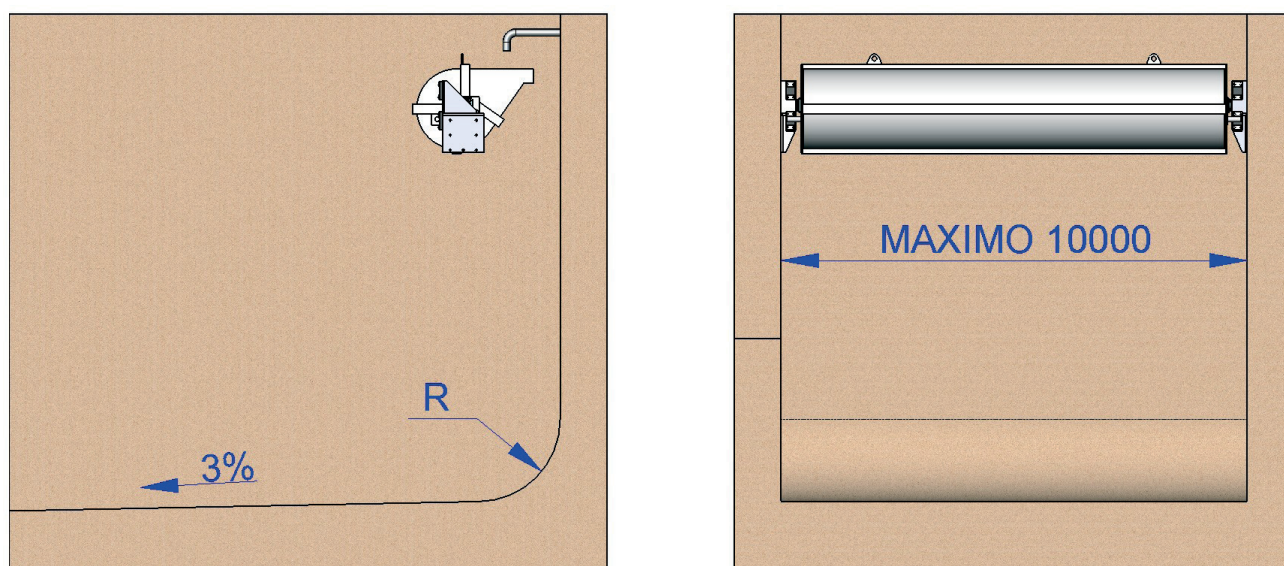

Fig. 5
- The cradle under the cleaner will have a considerable radius (dimension "R" in fig. 5), in order to reduce losses caused by the impact of water against concrete.
- Cleaning lanes should have a slope of 3% (fig. 5).